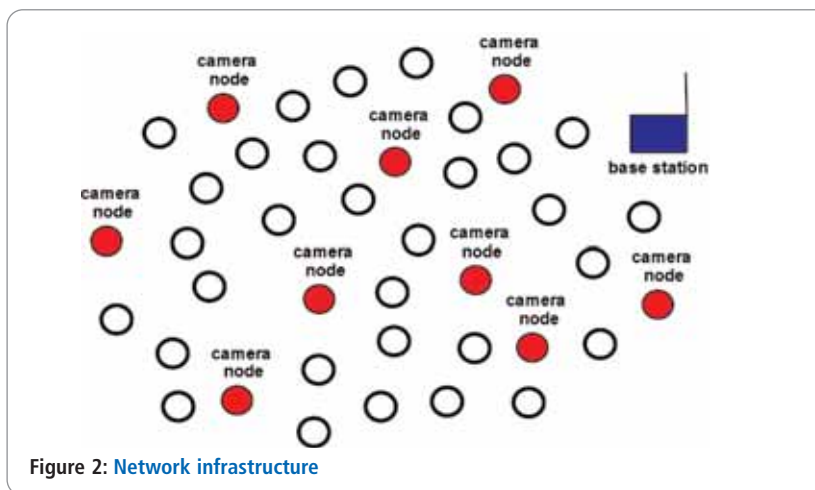

Figure 2: Network infrastructure
The infrastructure of the proposed system can be described as an undirected graph $G(V, E)$ in which the vertices (V) represent the sensor nodes, and the edges (E) represent the communication links between these nodes. Two types of sensor nodes are used in the system: camera-equipped and ordinary nodes. Camera nodes are responsible for capturing visual data and sending it to the base station. Figure 2 shows the system's network infrastructure.